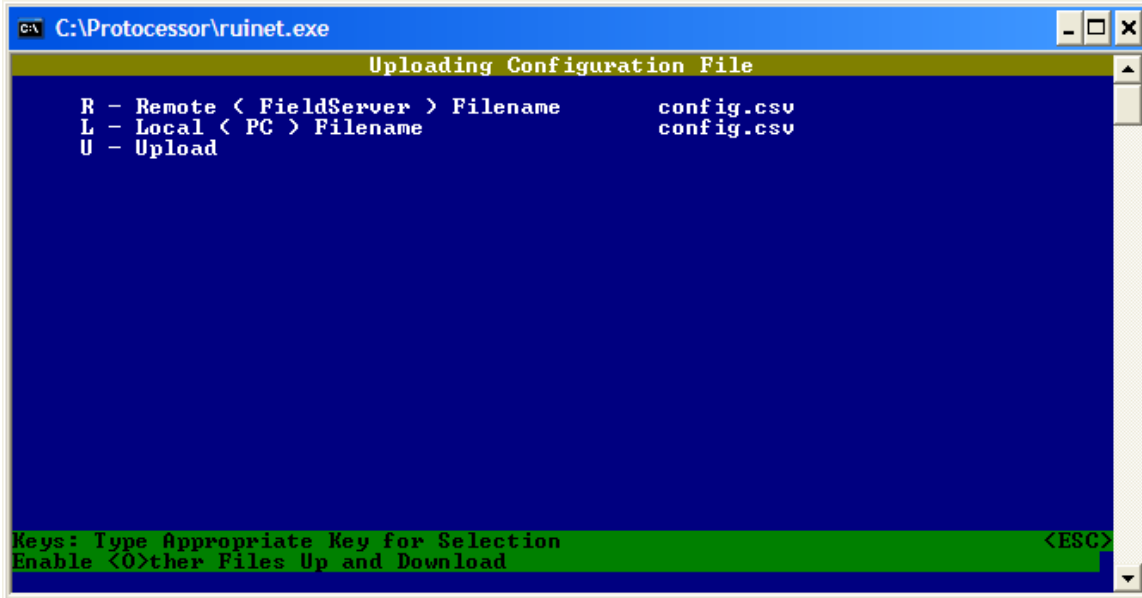
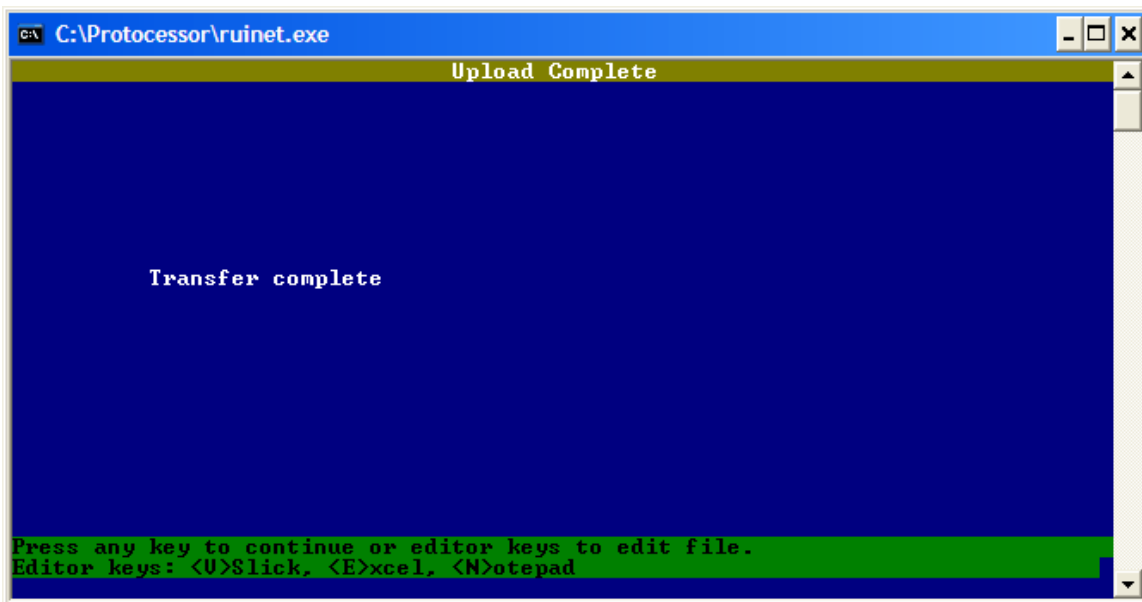

Figure 5. RUINET - Upload Screen
Figure 6. RUINET - Upload Complete Screen
- 2) Press the 'U' key to choose (U)pload Configuration (see Figure 5). Press 'U' again to begin the upload. This uploads the ProtoCessor configuration file (*config.csv*) to the computer from the ProtoCessor. When the upload is complete (see Figure 6), press 'N' to choose (N)otepad. This will open the configuration file in NotePad for editing. Other basic text editors can be used, but the file is already formatted for use in NotePad. **DO NOT EDIT THE FILE WITH EXCEL, IT WILL ADD EXTRA FORMATING AND CORRUPT THE FILE.**